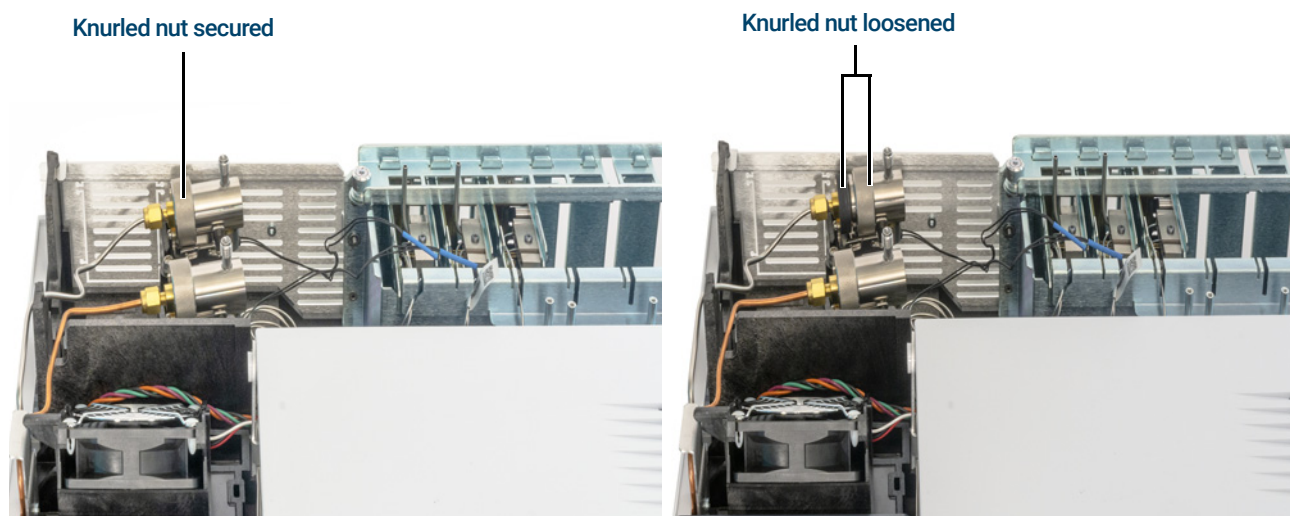

Figure 38. Loosen knurled nut
- 4 Completely loosen the knurled nut that secures the split vent trap in place as shown in Figure 38.